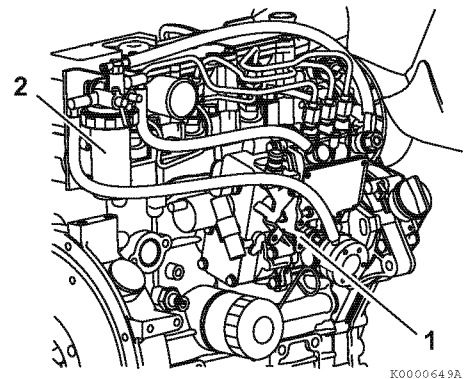

Figure 4-6
1. Operate the fuel priming lever (1, **Figure 4-6**) several times until the fuel filter cup (2, **Figure 4-6**) is filled with fuel.